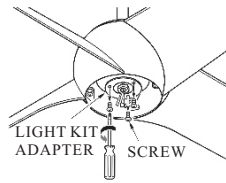

FIG. 16
1. Remove the 3 screws on light kit adapter.(See fig.16)